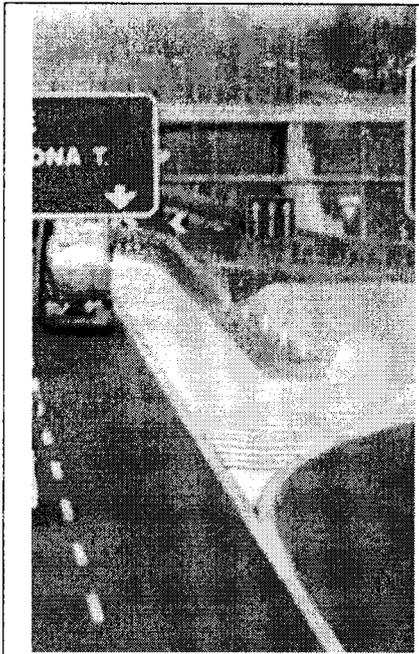

Fig.5
- Do you use horizontal sign like shown in Fig.5?